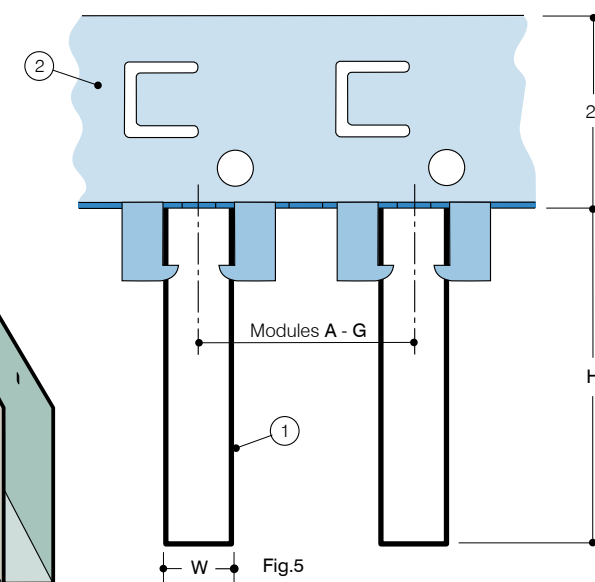

Fig.5
profiles (1) [Fig. 2]. When pressure is removed the tips penetrate the sides of the profile [Fig. 5] to make a secure attachment. Removal of the profiles is effected by this same action in reverse.
The LINUS system produces linear screen effect interior ceilings having the semblance of an overall continuous directional grill. Linear emphasis can be attuned to individual building designer preference by selecting from an extensive range of options. Manufactured from light gauge aluminium or mild steel, deep U formation LINUS profiles (1) [Fig. 5] are fixed as shown to suspended carriers (2) [Figs. 2, 3, 5 & 6] to create an open gap structure.
H Linus profile height as Fig.5 in mm.
W Linus profile width as Fig.5 in mm.